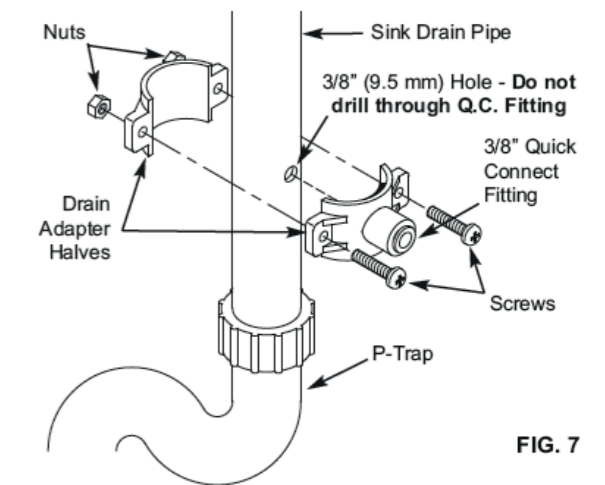

FIG. 7
1. Test fit the two halves of the drain adapter onto the sink drain pipe, about 6 inches (15 cm) above the P-trap (See Fig. 7). Make sure that the Q.C. fitting is toward the direction of the RO filter.
2. Using the hole through the drain fitting as a guide, mark the pipe where a 3/8" (9.5 mm) hole will be drilled (See Fig. 7), and remove the drain adapter from the pipe.
6. Assemble the nuts and screws, as shown in Figure 7, and tighten both sides equally to secure the drain adapter halves onto the pipe. Do not overtighten.